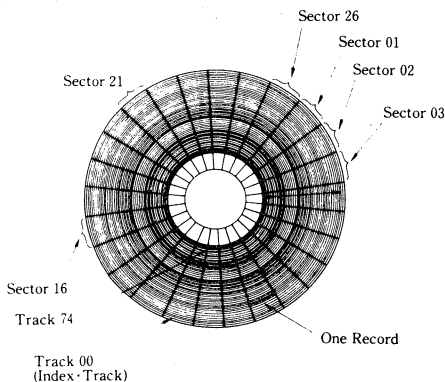

Figure 7-5. Floppy Disk Format
1. Use the following type of floppy disk (figure 7-5):